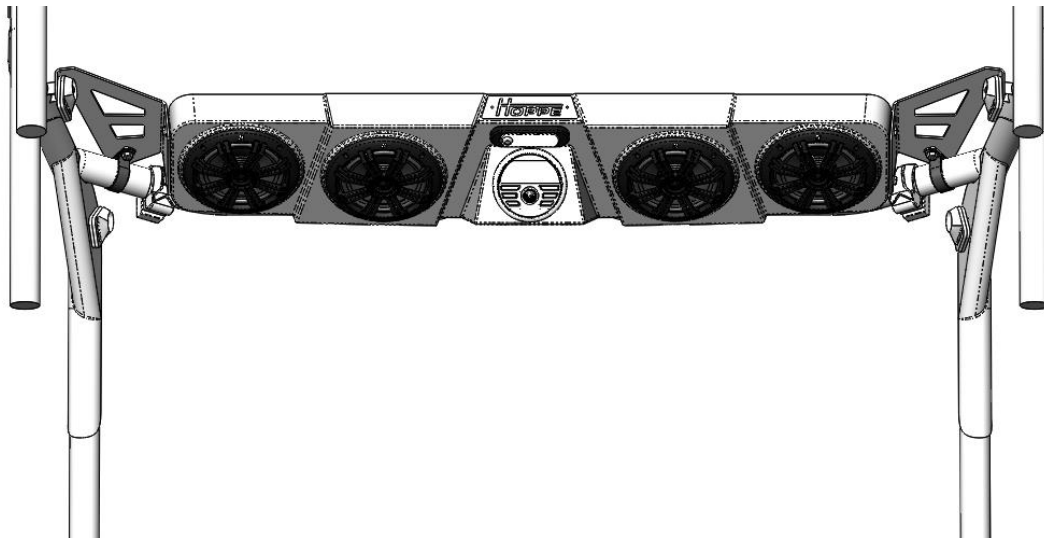

**Figure 5: Hardware for mounting the loop clamps to the brackets.**
4. Use the supplied 3/8"-16 x 1" bolts, washers, and nylock nuts to secure the loop clamps to the mounting brackets. Loosely tighten the bolts to allow for adjustment of the *Audio Mini* placement. See Figure 5.